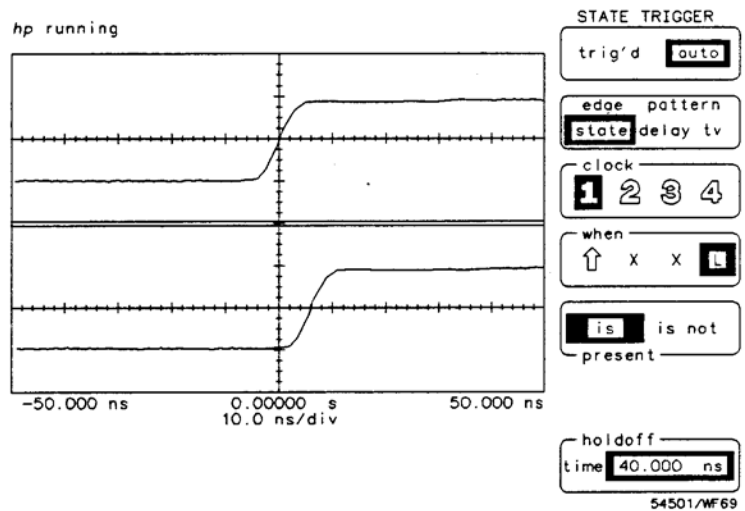

Figure 6-11. Channel 1 Clock XXL State
- Press the when key until **is present** is selected (see Figure 6-11).